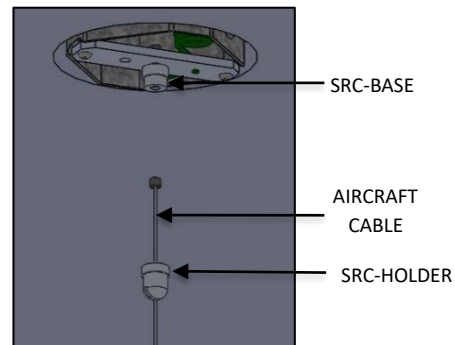

FIG. 14– AIRCRAFT CABLE INSTALLATION
12. Feed the AIRCRAFT CABLE through the SRC-HOLDER and assemble the SRC-HOLDER to SRC-BASE as shown below in FIG. 14.